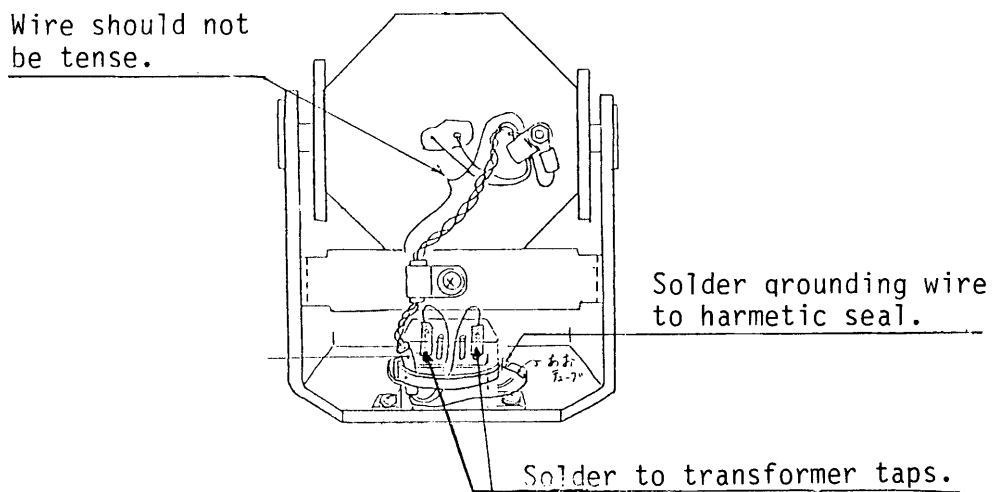

Figure 5.5
- 3) Solder transducer leads wires and fix them as shown in Fig. 5.5.